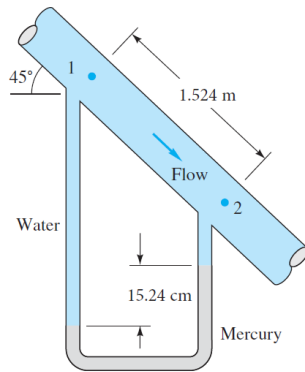

Fig. 2.3
- 2.3 Water flows downward in a 1.524 m long pipe at 45° , as shown in Fig. 2.3. The pressure drop $p_1 - p_2$ is partly due to gravity and partly due to friction. The mercury manometer reads a 15.24 cm height difference. What is the total pressure drop $p_1 - p_2$ in Pa? What is the pressure drop due to friction only between 1 and 2 in Pa? Does the manometer reading correspond only to friction drop? Why?